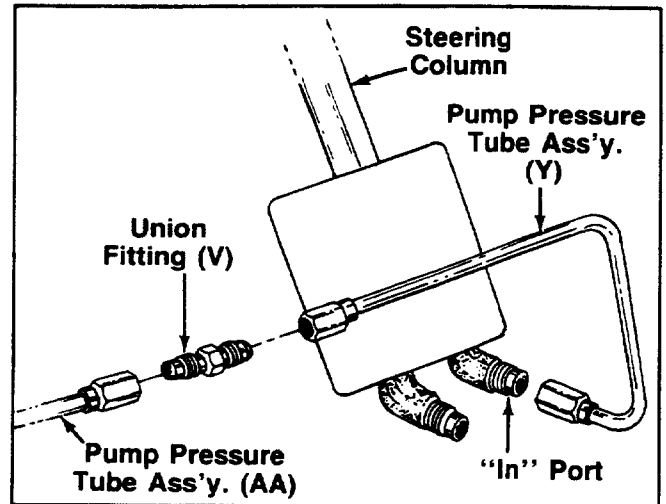

FIGURE 23.
16. Assemble the (short end) pump pressure tube assembly (Y) to the 90° elbow on the "In" port on the bottom of the steering column loosely. Do not tighten at this time. See figure 23.
17. Assemble the other end of pump pressure tube assembly (Y) to the union fitting (V) and tighten. See figure 23.